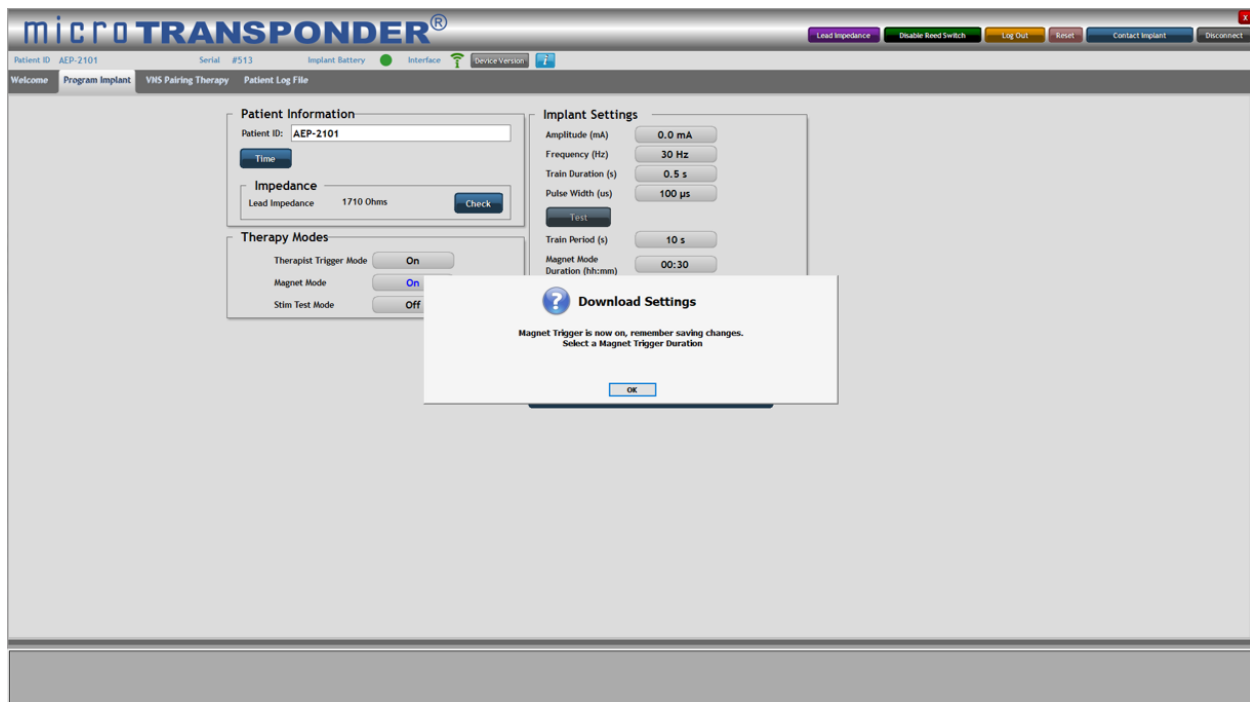

Figure 7.3: Magnet Mode Prompt
2. When this mode is turned on, you are prompted to set the **Magnet Mode Duration** and reminded to save changes, as shown in Figure 7.3. Select “OK”.